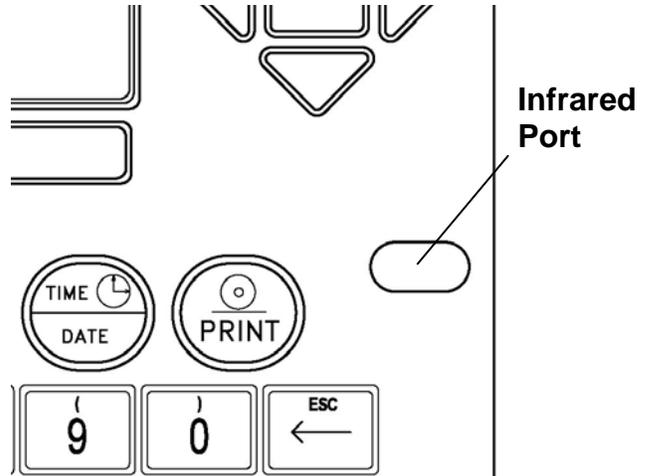

Figure No. 14
An infrared (IR) data port is standard on the Model 225 Indicator. The IR port is located on the front panel of the indicator slightly above and to the right side of the PRINT key (see Figure No. 14). **NOTE!** If not using the IR data port, it is *highly* recommended to disable it.